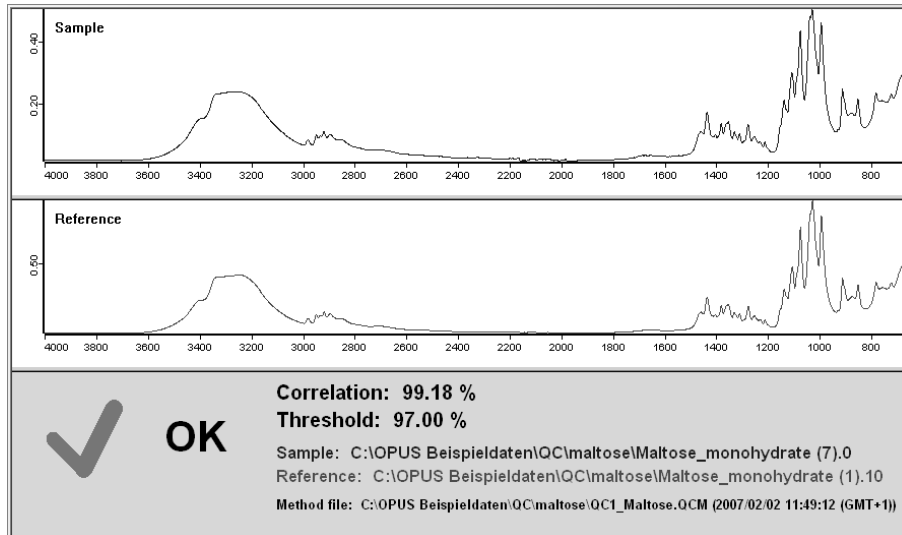

Figure 56: Result of a Quick Compare using one Reference - Sample Spectrum is OK
- 4 Immediately after OPUS has executed a Quick Compare evaluation, the result is displayed automatically. (See figure 56, for example.)
- If you have selected a single file or an average as reference, you will get either an *OK* or *Not OK* as result (see figure 56, 57 and 58). In both cases, the displayed result allows you to see at first sight whether the analyzed sample meets the specified quality criteria or not (see figure 56 and 57).